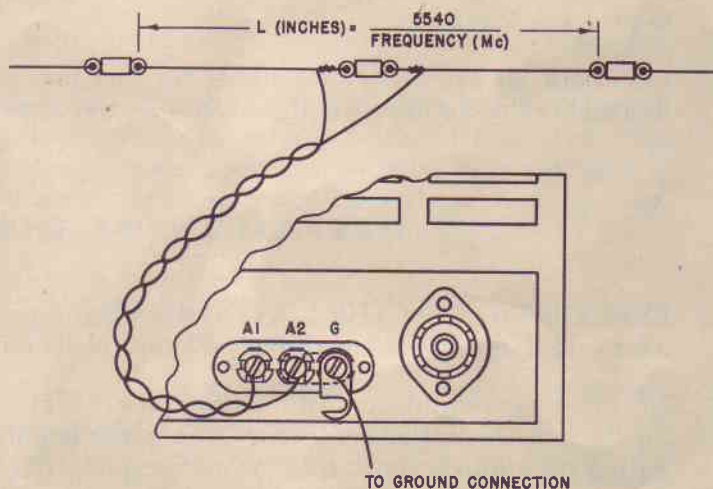

Figure 3. Doublet Antenna Installation.
A. Single Wire Antenna.—When using a single wire antenna installation, connect a jumper between the antenna terminal A2 and G. Then connect a single wire of about 50 to 75 feet (including lead-in) to terminal A1. Use #14 gauge copper wire or heavier for best results. Erect the antenna as high and free from surrounding objects as possible. This type of antenna works well where the signal to noise ratio is relatively high and a more elaborate installation is not practical. Refer to Fig. 3.
(1) To determine the proper length of the doublet antenna in feet: